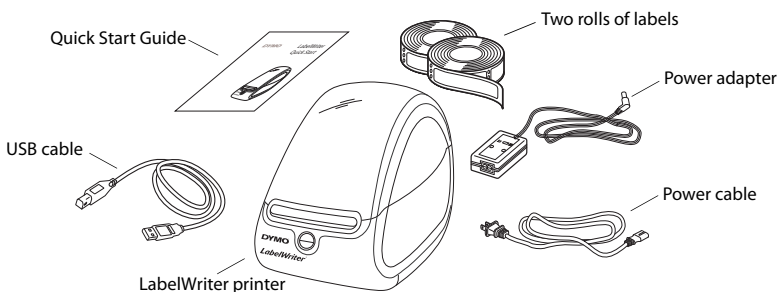

Figure 1
- 2 Make sure all the items in Figure 1 are present.